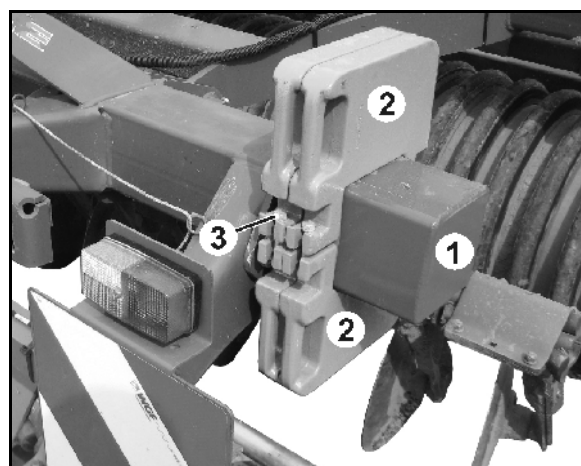

Fig. 16
1. Mount the holder tube (Fig. 16/1) with 4 screws on the outside of the boom.
2. Screw two additional weights (Fig. 16/2) onto each holder tube (Fig. 16/3) and secure.